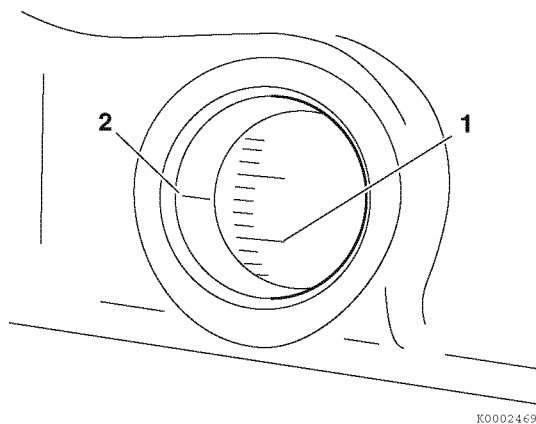

Figure 7-36
2. Determine if the timing is “advanced” or “retarded” by comparing the position of the target timing mark on the flywheel grid (1, **Figure 7-36**) with the timing mark on the flywheel housing or back plate (2, **Figure 7-36**).